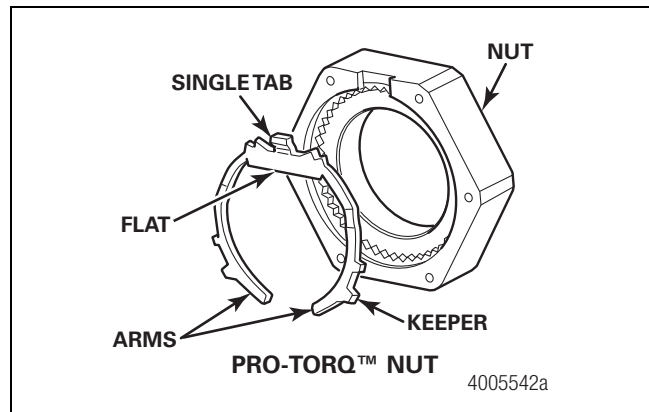

Figure 13.26
- Remove the keeper from the PRO-TORQ™ nut. Use a screwdriver to pry out the keeper arm from the groove on each side of the nut until the keeper is released. Meritor recommends replacing the keeper with a new one each time the PRO-TORQ™ nut is removed to maintain the integrity of the locking mechanism. Use a 3.5-inch (89 mm) socket wrench to remove the PRO-TORQ™ nut. Figure 13.26.